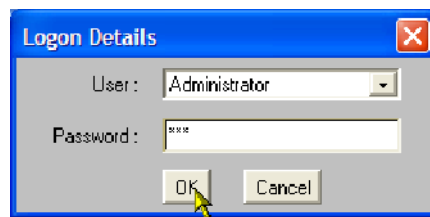

Figure 6: Login Details dialog box
15. In the Logon Details dialog box (see Figure 6), select the user type from the drop-down list, and enter the password.